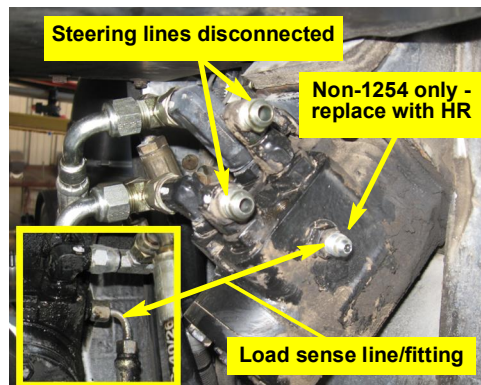

Figure 5b: Steering lines and load sense line disconnected from orbital
b. Disconnect the steering hoses at the orbital to improve access to the load sense connection (Figure 5b).
c. Locate the machine's load sense line at the orbital and disconnect it (Figure 5b and inset). For non-1254 models only, remove the fitting in the load sense port and replace it with **HR** (not shown).